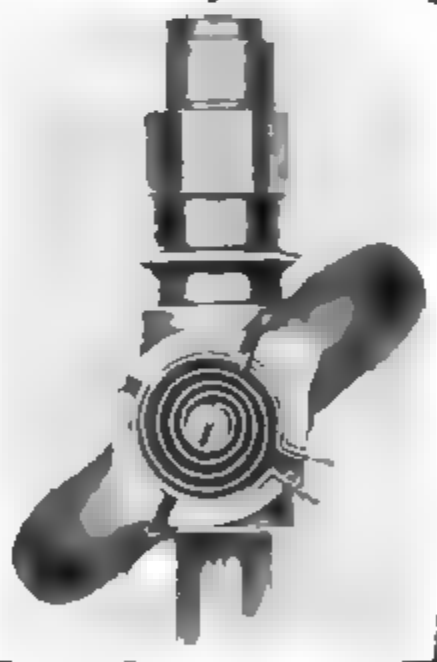

Fig. 135. Bosch Compensating Governor
*Compensating Feature.* The governor or compensator is of the "tilting ring" type and is carried on the timer shaft just below the interrupter cam. The range of the ignition advance is determined by an advance control stud integral with the governor. As the timer shaft rotates, the resultant tilting movement of the governor ring, due to centrifugal force, advances the interrupter cam, which is assembled to the timer shaft in the form of a sleeve, by direct engagement of a stud that projects into a slot provided by this sleeve. The total throw of the governor ring, Fig. 135, is readily adjustable by means of stop pins. To provide for the proper movement of the cam at different engine speeds, the tilting of the ring is opposed by an adjustable, spirally wound spring that is located in a recess in the bearing hub of the ring. This spring is not only adjustable in relation to the ring for varying the initial tension of the spring, thereby controlling the speed by which the advance mechanism is operated, but various springs of different tension may be provided so that the most suitable advance may be selected and assembled to the unit according to the characteristics of the engine. For the same general shape of characteristic curve or the same percentage of movement at advance speeds a total advance from zero to 60 degrees, and even more when measured on the flywheel, may be